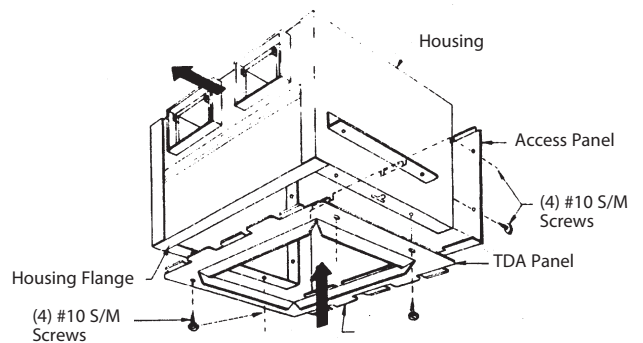

FIGURE 31: "TDA" (RIGHT ANGLE)
2. Reassemble both the TDA and access panels after exchanging locations. First, slide the 3 locking tabs of the TDA panel into the housing flange. Second, engage the access panel return flange into the 3 locking tabs on the TDA panel. Finally, reinstall the eight #10 sheet metal screws. See figure 31.